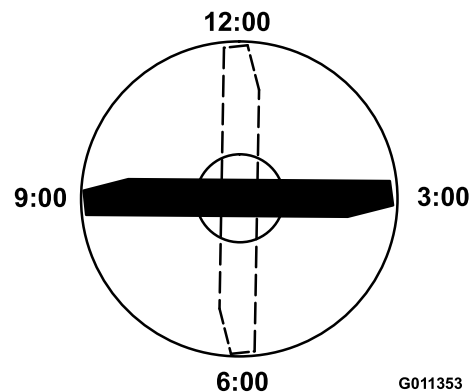

Figure 101
4. Position the cutting edge of the marked end of the blade at 12 o'clock (straight ahead in the direction of mowing) (Figure 101) and measure height from table to cutting edge of blade.
- Rotate the marked end of the blade to the 3 and 9 o'clock positions (Figure 101) and measure the heights.